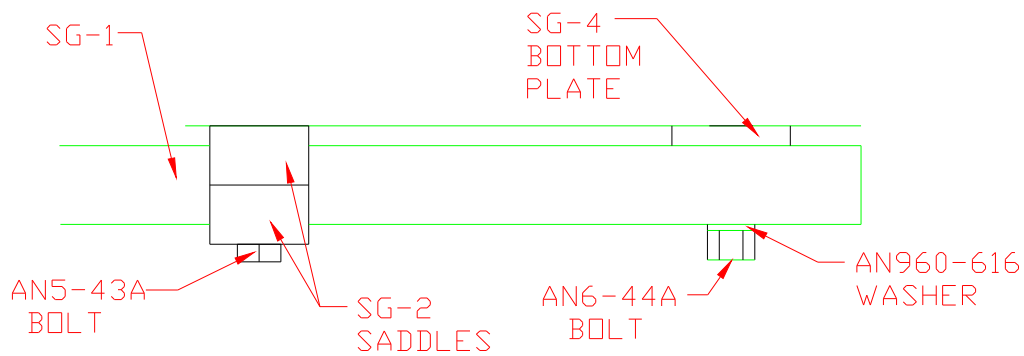

Figure 10.4.1
- 1) Slide the Spring Gear legs into position. Install the AN6-44A bolts. Tighten the nuts. Figure 10.4.1.